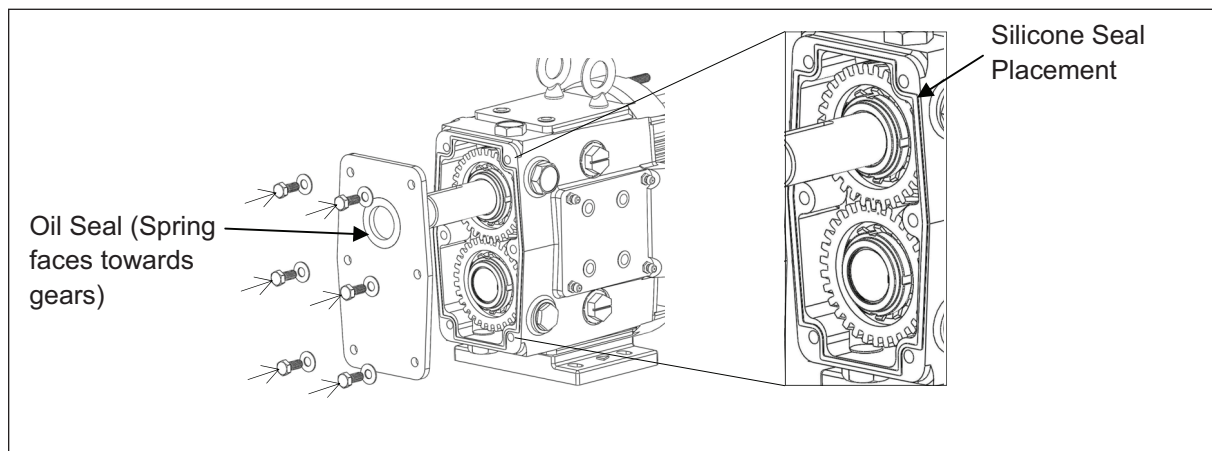

Figure 60. Installing Gear Casing Back Cover
- Apply a light film of lubricant to the inside and outside diameters of the gear case cover oil seal. Using a press, install the oil seal into the back cover so that it is flush with the outside of the back cover and the spring is facing the gears. Apply a silicone sealant to the edges on the back of the gear case making sure there are no gaps. Slide the back cover onto the gear case, making sure that the shaft is centered on the oil seal, and secure it with the retaining bolts (Figure 60). It is important not to cut the oil seal on the shaft keyway; tape may be used to cover any sharp edges on the shaft. Install the oil plugs and fill the gear case with the recommended amount of oil using Table 3 on page 18.